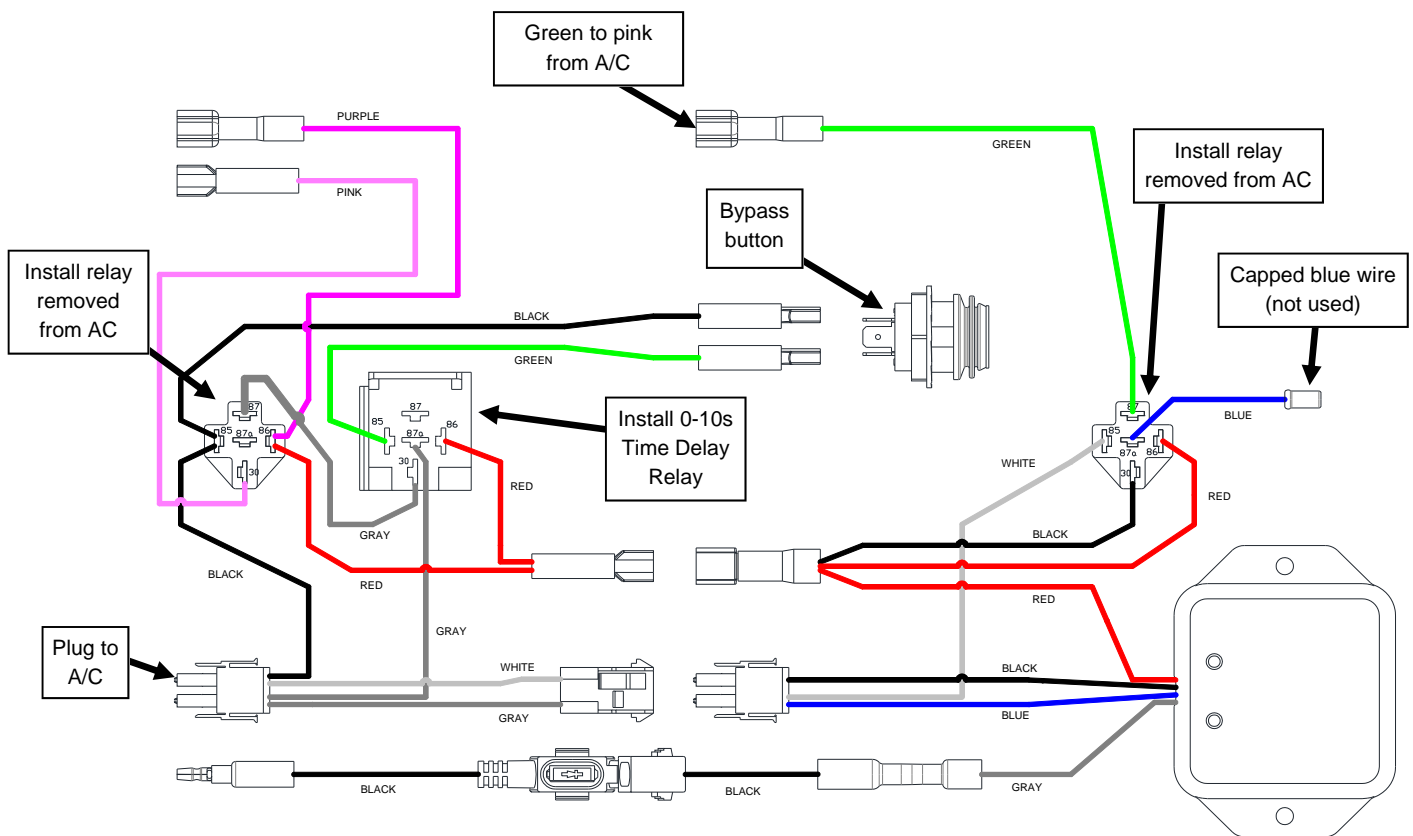
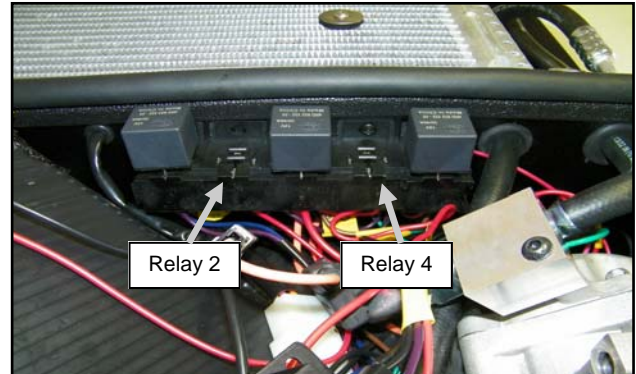

Fig. 2.9 (Connect Relay Harness)
Fig. 2.10 (Remove Relays 2 & 4)
- 2.10** Remove relays from sockets 2 and 4 on the air conditioner unit (9SV-85-01-0022) as shown in figure 2.10 and re-install one of these relays into the relay socket on the Controller assembly as shown in figure 2.9 on the previous page.